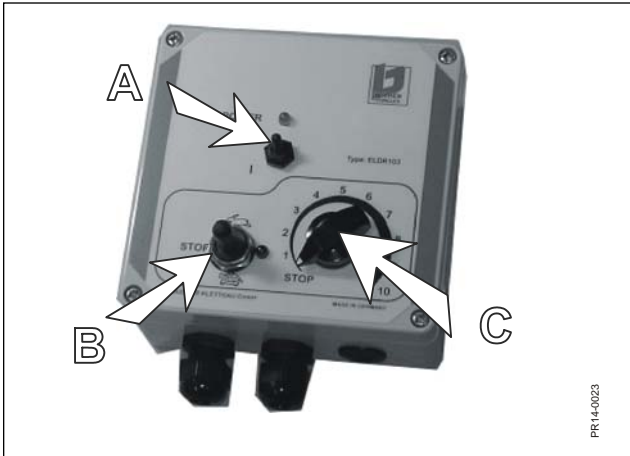

Fig. 5.3
Fig. 5.3 The electricity is connected through the contact (A), and then the speed (B) can be chosen. The figures below illustrate how the difference between the hare and the turtle should be understood. By means of the turning knob (C) the speed of the conveyor chain can now be adjusted.